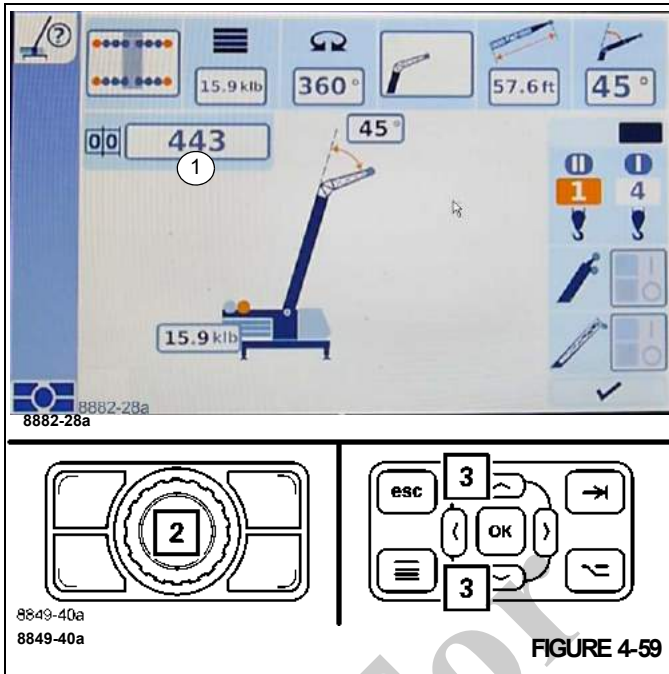

FIGURE 4-59
- Select and confirm the symbol (1), (Figure 4-59).
- Use the buttons (2) or (3) to select the required RCL code.